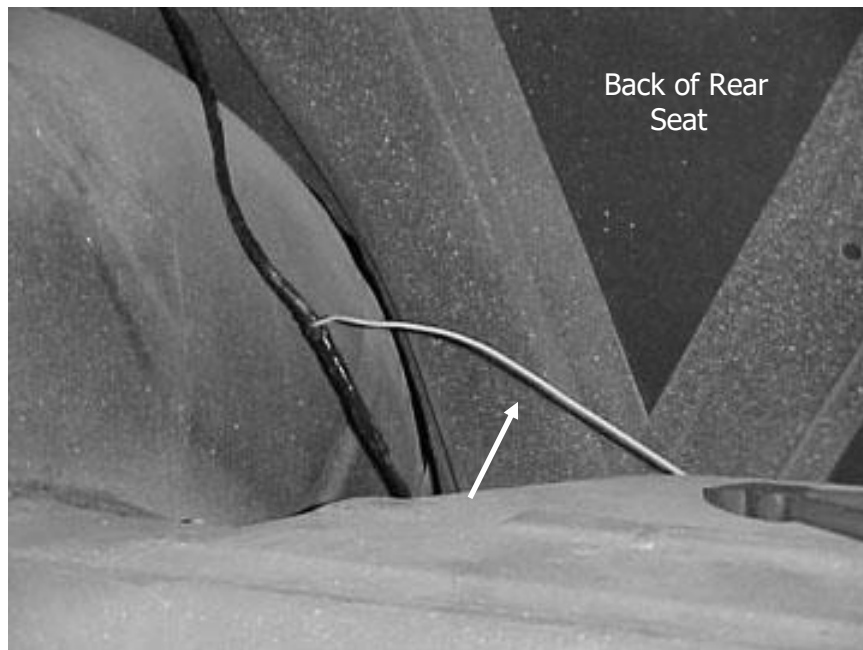

Figure 8.8 Fuel Sender Wire Routing
8.2.4 Locate the wire for the fuel sending unit and route it as shown in Figure 8.8. Connect the wire to the sending unit.